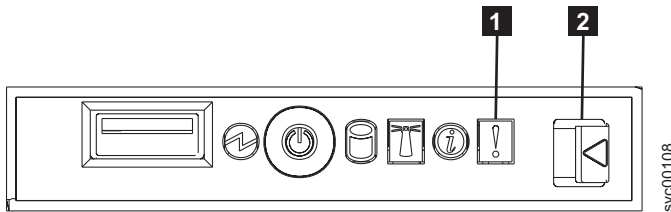

Figure 91. SAN Volume Controller 2145-8F4 operator-information panel
1. Is the Error LED, shown in Figure 91, on the SAN Volume Controller 2145-8F2 or the SAN Volume Controller 2145-8F4 operator-information panel illuminated or flashing?